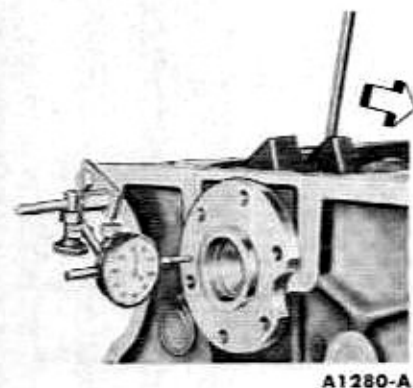

FIG. 39—Crankshaft End Play
12. Install a dial indicator, so that the contact point rests against the crankshaft flange and the indicator axis is parallel to the crankshaft axis (Fig. 39).